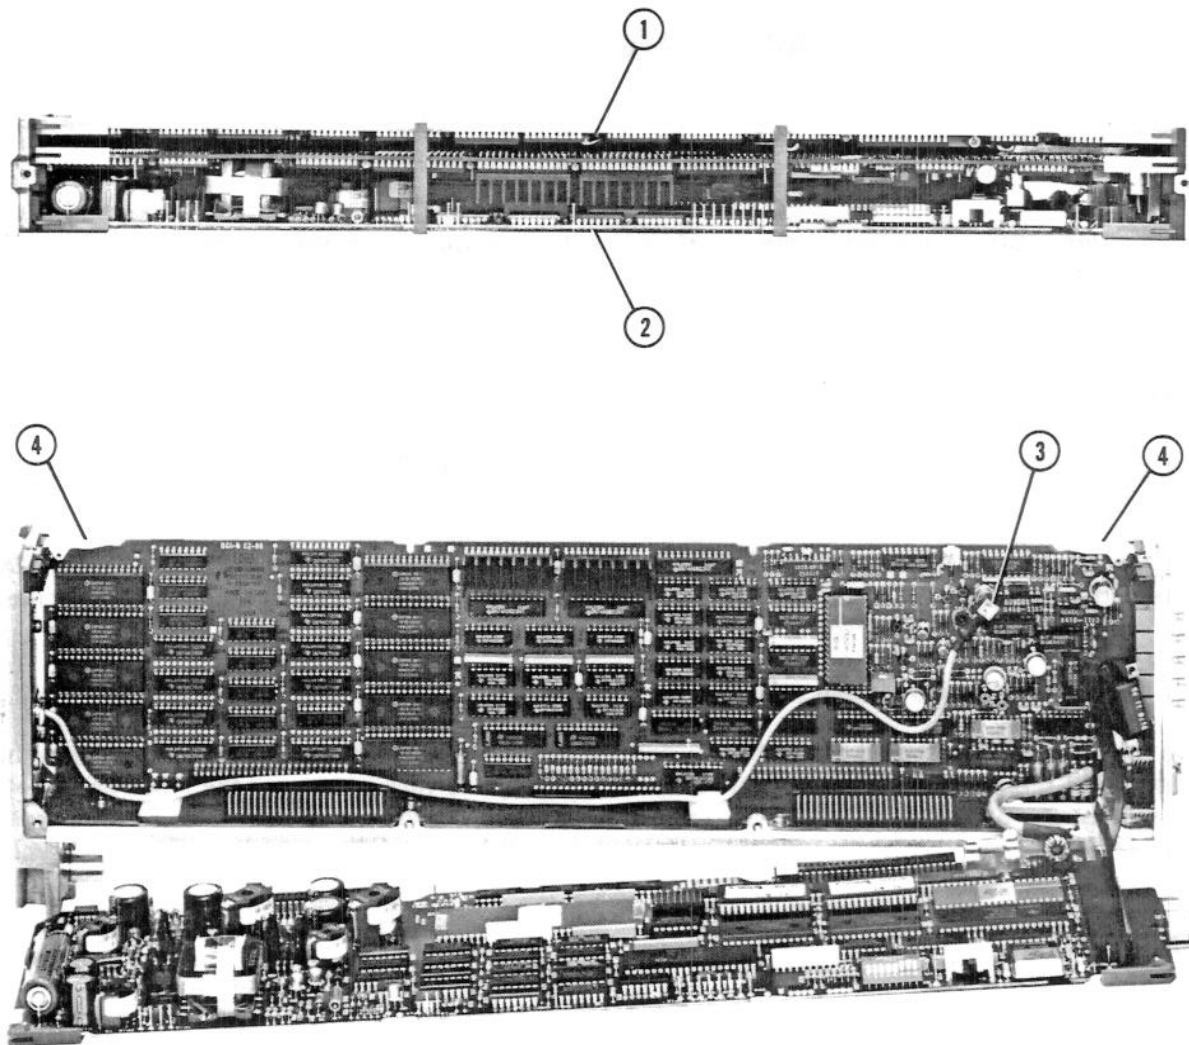

Figure 5-3. A4 Converter Replacement
2. Remove the A3 Address (1) and the A5 Processor (2) board assemblies from the module so that the A4 Converter board assembly is exposed. Refer to the A3 Address and the A5 Processor Replacement Procedures for disassembly. See Figure 5-3.
3. Remove the front-panel gray coaxial cable W2 (3) from A4J2.
4. Remove the A4 Converter board assembly by using the yellow colored tabs (4). Lift the board assembly upwards so that the two motherboard connectors are cleared, and then maneuver the front end of the board assembly out of the guide bar (away from the front frame) so that the entire assembly may be removed.